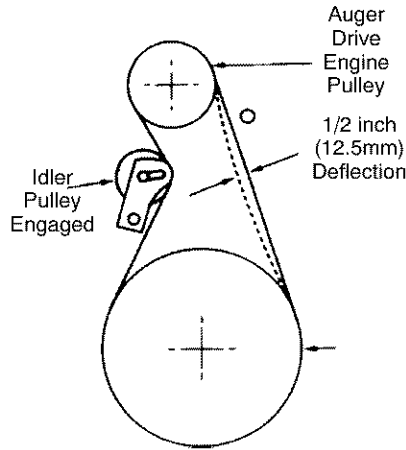

Figure 20
5. Have someone engage auger drive clutch. Check tension on belt (opposite idler pulley). Belt should deflect about 1/2 inch (12.5 mm) with moderate pressure (Figure 20). You may have to move idler pulley more than once to obtain the correct tension.